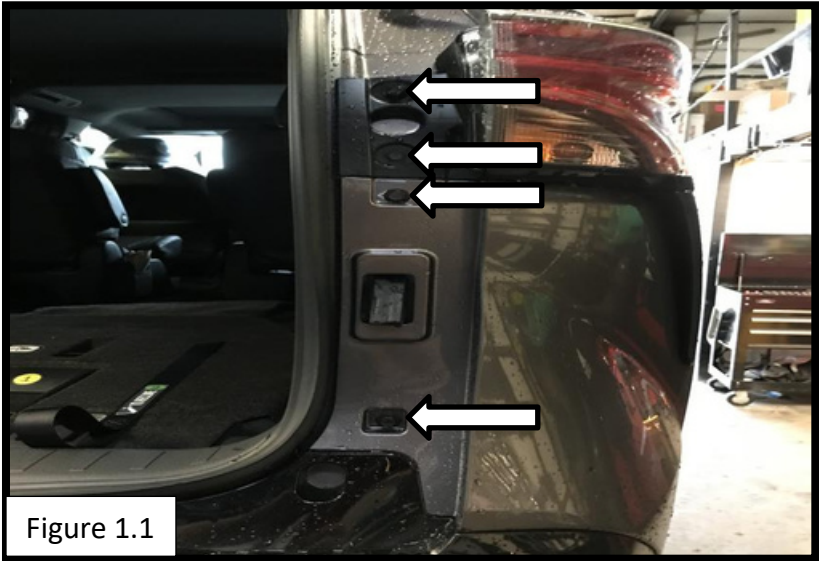

Figure 1.1
- Lift the rear hatch. On each side of the vehicle, remove the two screws on the inside of the taillight, and the two screws directly below them in the body panel. See Figure 1.1.